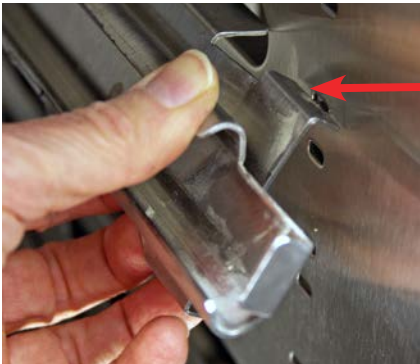

Fig. 20: Inserting Top Channel Tab
1. First, insert the top tab of one end of the roller channel into a slot (the roller channel width spans four slots) (Fig. 20 - 21).